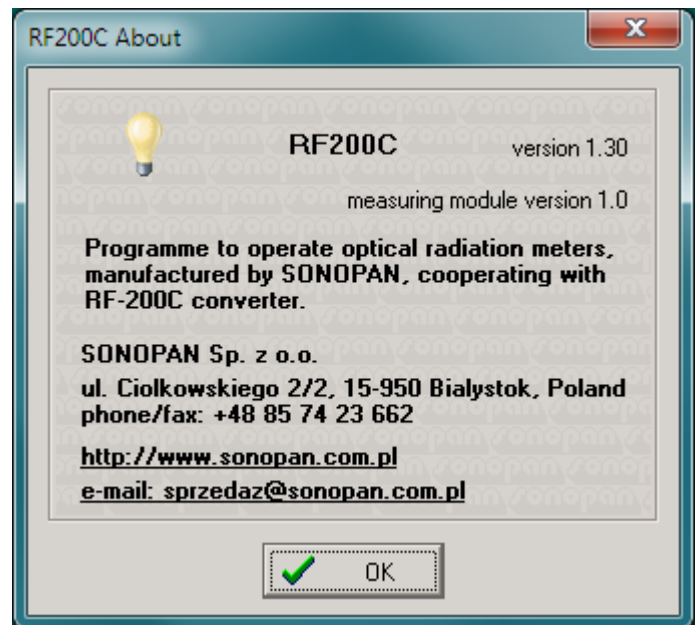

Fig. 3. View of the window containing information about the program.
- **About** - it opens the window containing information about the program (see Fig. 3).